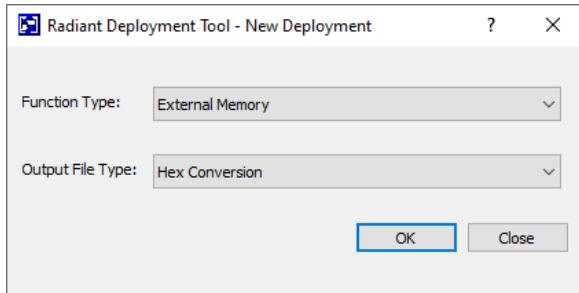

Figure 6.8. Function Type and Output File Selections
6. For Function Type, select **External Memory** and for Output File Type, select **Hex Conversion**. Click **OK**. See Figure 6.8.